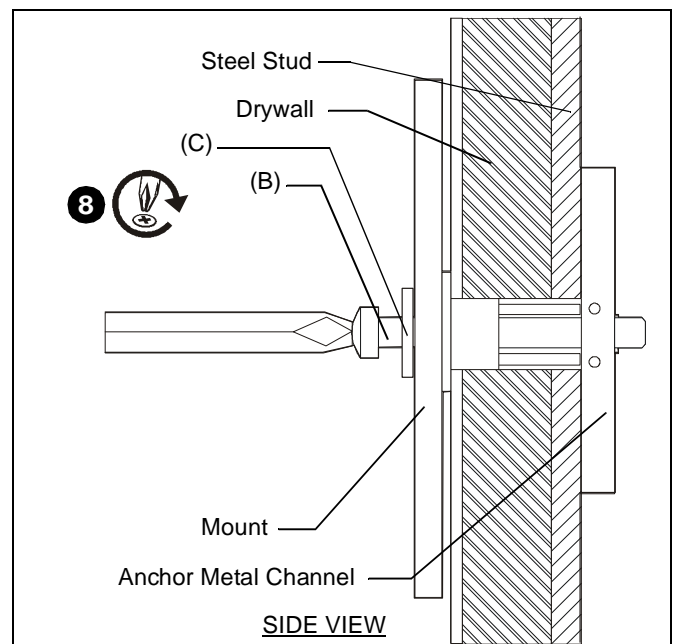

Figure 4
7. Place mount over anchors and align mounting holes in display mount with holes in anchors. (See Figure 4)
8. Insert 1/4-20 x 1-3/4" Phillips pan head screws (B) through 1/4" washer (C), corresponding mounting hole on mount and into anchor (A) and tighten until flush against mount. DO NOT overtighten! (See Figure 4)